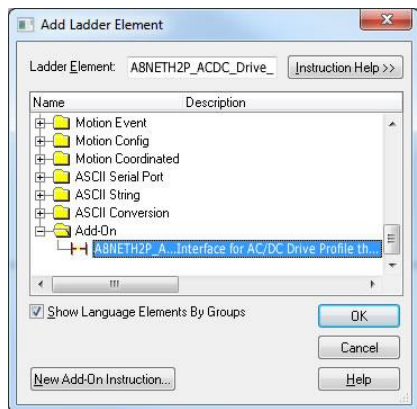

Figure 38: Add AC/DC Drive Profile Add-On Instruction
- 8) Select the AC/DC drive profile add-on instruction in the Add-On folder. Refer to Figure 38.